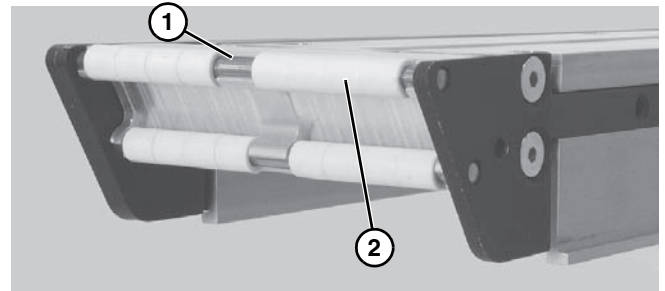

Figure 66
3. Slide bearing rods (**Figure 66, item 1**) out side of conveyor and replace bearings (**Figure 66, item 2**) as necessary.